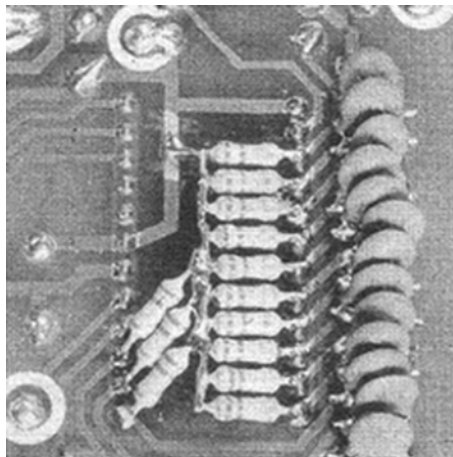

Figure 4. Decoupling the inputs to IC1. See notes 9 & 10.
- 9 If you hear an odd discordant rasping sound occasionally whilst playing the pedals then fit 13 Resistors 220K to pins 3 through 15 of IC1 and join the other ends of the resistors together and connect them to the track going to pin 19 of IC1 by carefully scratching off the solder resist. See Figure 4.
- 10 If the pedal notes occasionally cut-off suddenly during sustain time, this is due to mains interference being picked up on the ribbon cable. To eliminate the problem, connect 13 mini-disc capacitors 0.01 μ F to PL1 from pins 3 through 15, to the track nearest the edge of the PCB by carefully scratching off the solder resist coating. See Figure 4.